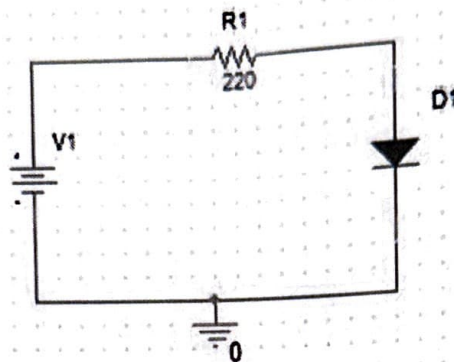

Figure 1: Diode Circuit
- Determine the forward bias characteristics of the diode. Construct the circuit as shown in Figure 1 and adjust the source to obtain the required current (I_F) values. At each current value, record the forward voltage (V_F) drop of the diode.